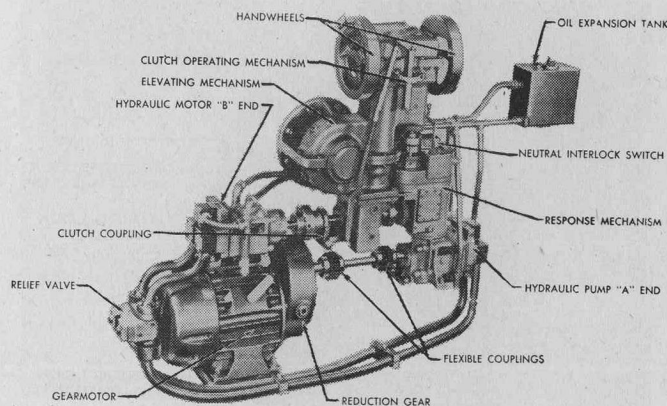

Figure 12. Hydraulic elevating mechanism.
(2) Shift the lever of the clutch operating mechanism from HAND to POWER.
(3) Rotate the handwheels slowly until the neutral interlock switch is closed. The switch is closed when the switch lever is in the position of maximum outward movement. (See fig. 12.)
(4) Press the START button and the motor will operate.
(5) Press the STOP button to turn off the motor.